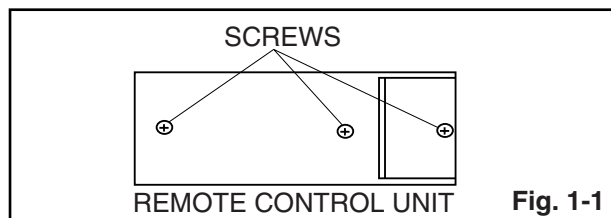

Fig. 1-1
1. Prepare normal remote control unit. (Part No. N0138UD or N0139UD) Remove 3 Screws from the back lid. (Fig. 1-1)